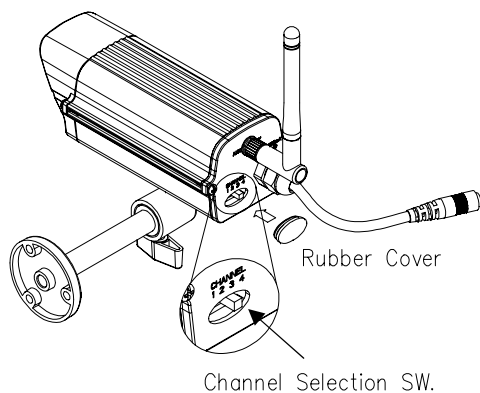

Fig3
8. Channel selection SW(switch) (See Fig3)